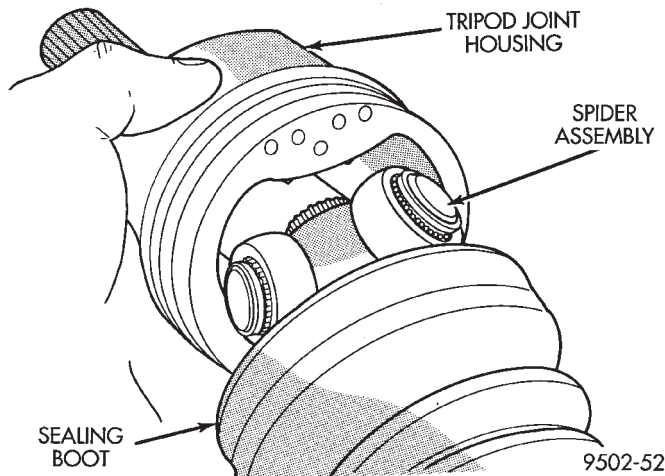

Fig. 33 Installing Tripod Housing on Spider Assembly
(5) Align tripod housing with spider assembly and then slide tripod housing over spider assembly and interconnecting shaft (Fig. 33).